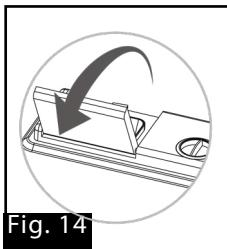

Fig. 14
2. The cover will spring open (Fig. 14).